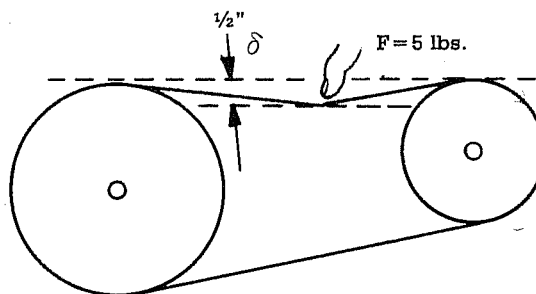

Figure 7
- c. Belt tension is correct (see Figure 7).